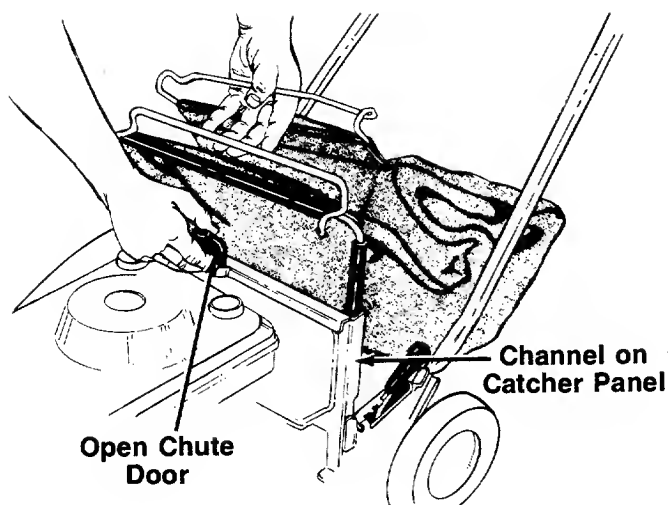

FIGURE 13.
1. Hold the chute door on the catcher panel open as shown in figure 13.